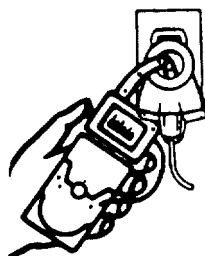

Figure 2
6. Press the handle on the side of the adapter to open the jaws. Place the jaws around ONE conductor and release the handle (See Figure 2).
7. Press the handle on the side of the adapter to open the jaws Place the jaws around ONE conductor and release the handle (See Figure 2).
- (2) With Model 10 adapter and Model 310 V-O-M connected and set properly for measuring AC current, snap Model 10 through the hole in Model 101 and take readings, starting at the highest current range. (Fig 2). Reset range switch on Model 10 for greatest pointer deflection.